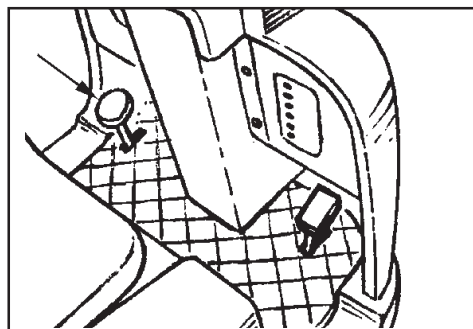

Figure 10
3. Set the parking brake by pushing on the pedal and pulling it backwards with your foot. Make sure the pedal is locked in position (see figure 10).